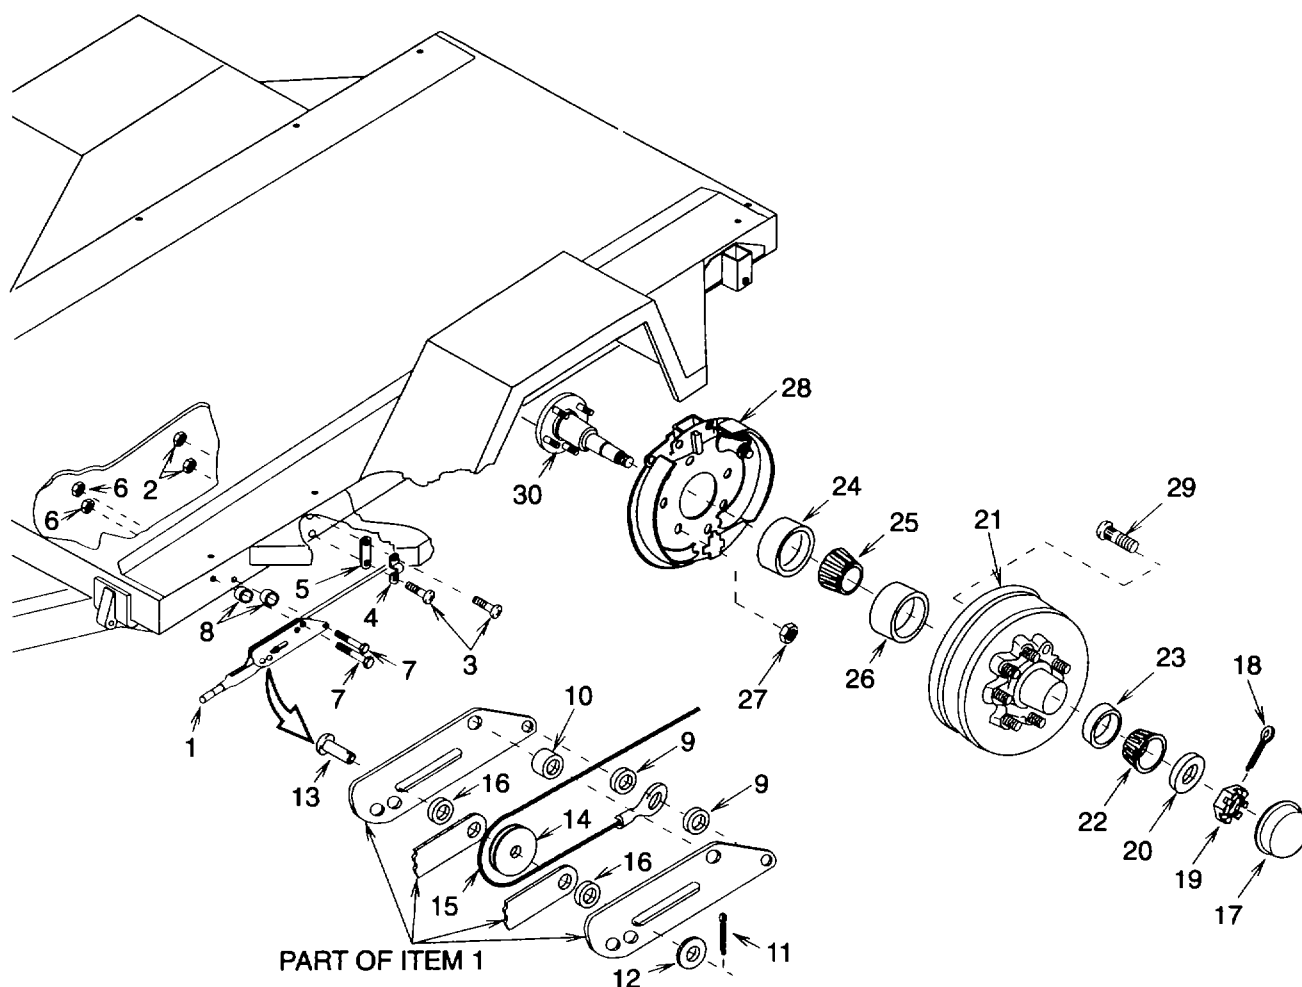

Figure 4-31. Parking Brakes
a. Removal (See figure 4-31.)
- (1) Release parking brake (1) lever (up/vertical) if set.
- (2) Remove two lock nuts (2), screws (3), one clamp (4), and link (5). Discard lock nuts.
- (3) Remove two nuts (6), screws (2), spacers (8), spacers (9), one spacer (10), and parking brake lever (1).
- (4) Remove cotter pin (11), flat washer (12), shaft (13), roller (14), cable (15), and two spacers (16). Discard cotter pin.
- (5) Remove grease cap (17).
- (6) Remove cotter pin (18) and discard.
- (7) Remove spindle nut (19) and spindle washer (20).
- (8) Remove brake drum (21), outer bearing (22), and cup (23).
- (9) Remove grease seal (24), inner bearing (25), and cup (26).
- (10) Remove five lock nuts (27) and brake (28) assembly.
b. Repair (See figure 4-31.)**NOTE**
- (1) Replace any damaged lugs (29) if brake (21) is to be reused.
- (2) Replace axle per paragraph 4-30 if spindle (30) is damaged.